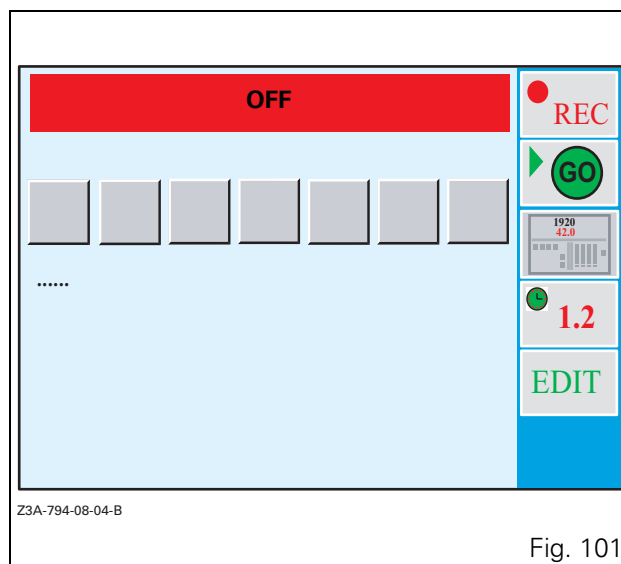
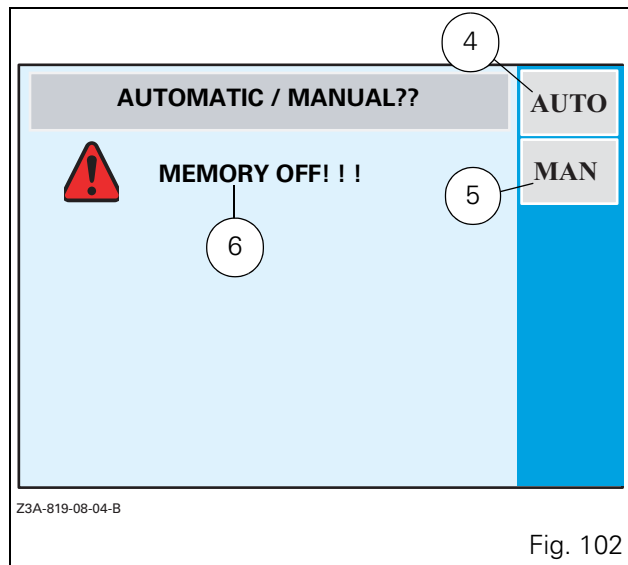

Fig. 101
Fig. 102
- Rotate the encoder (1) to the **HEADLAND** application and press the encoder once the active function is highlighted by red text and a red rectangle around the icon.
Or press the key «₃ (2). The window (Fig. 101) is displayed.
- To exit an application, press the **ESC** key (3).
To record a sequence, press the key «₁ (REC) when the window (Fig. 101) is open. The recording window (Fig. 102) is displayed.